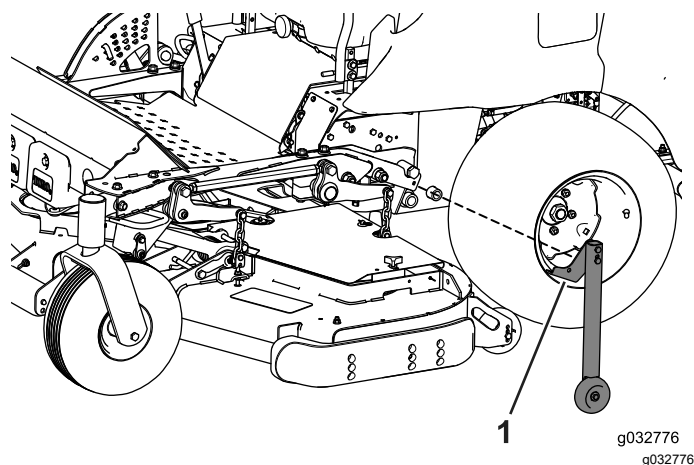

Figure 129
1. Remove the conversion rollers that are on each side of the summer frame (Figure 129).